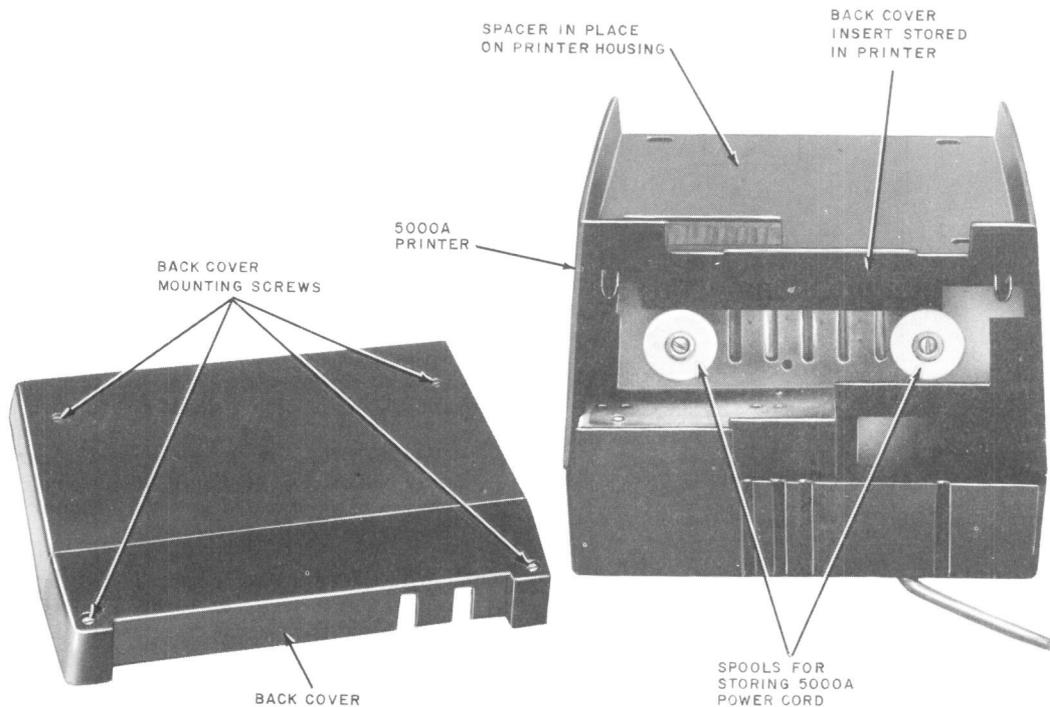

Fig. 10—5000A Printer With Back Cover Removed
- Housing Spacer, to be used when 5000A terminal set is placed on top of printer (Fig. 10)
(1) Remove back cover from printer by removing the four screws holding the cover in place (Fig. 10).
(4) Place housing spacer, provided with printer, onto the printer (Fig. 10) and place the 5000A terminal set on top of the spacer.